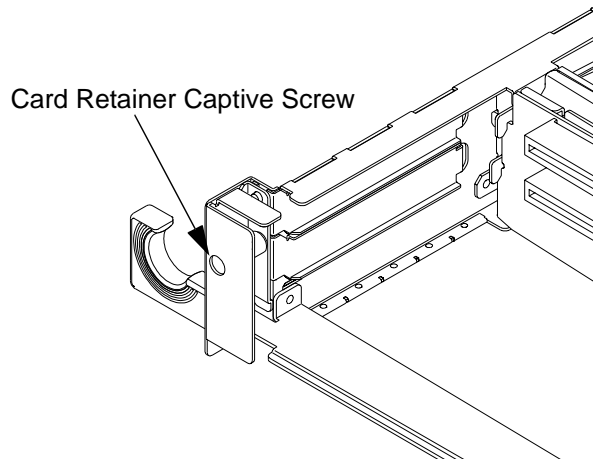
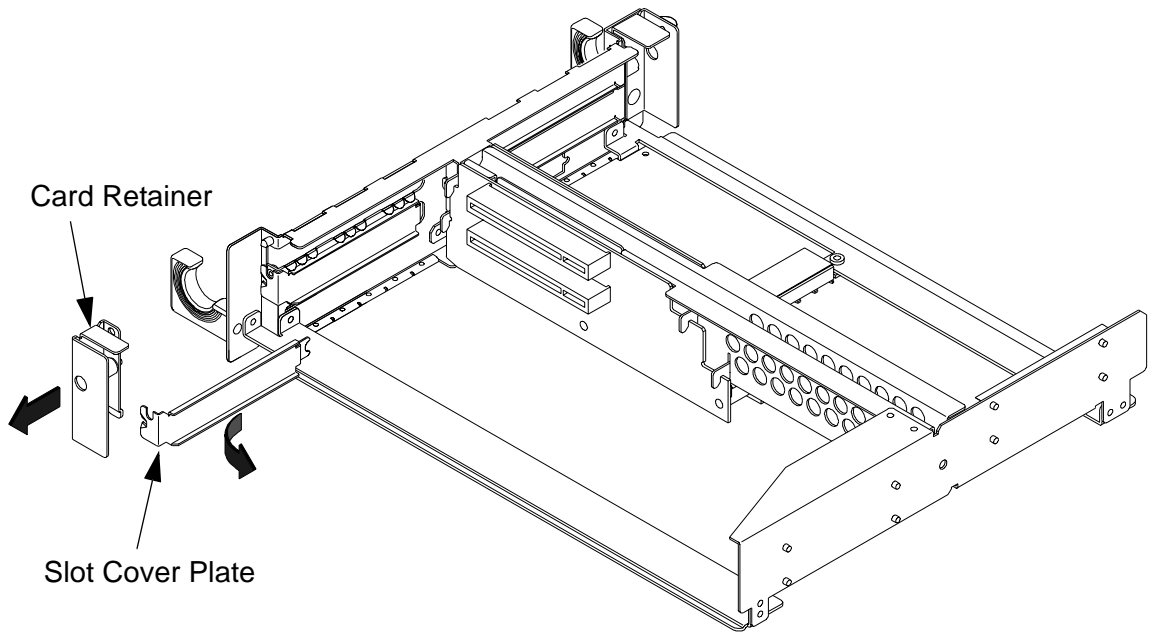

Figure 5-2
Figure 5-3 **Removing the Card Retainer and Slot Cover Plate**
Loosen the card retainer captive screw (see Figure 5-2) for the appropriate slot, and then remove the card retainer, as shown in Figure 5-3.
- 6** Remove the slot cover plate by pulling it out of the PCI module, as shown in Figure 5-3.